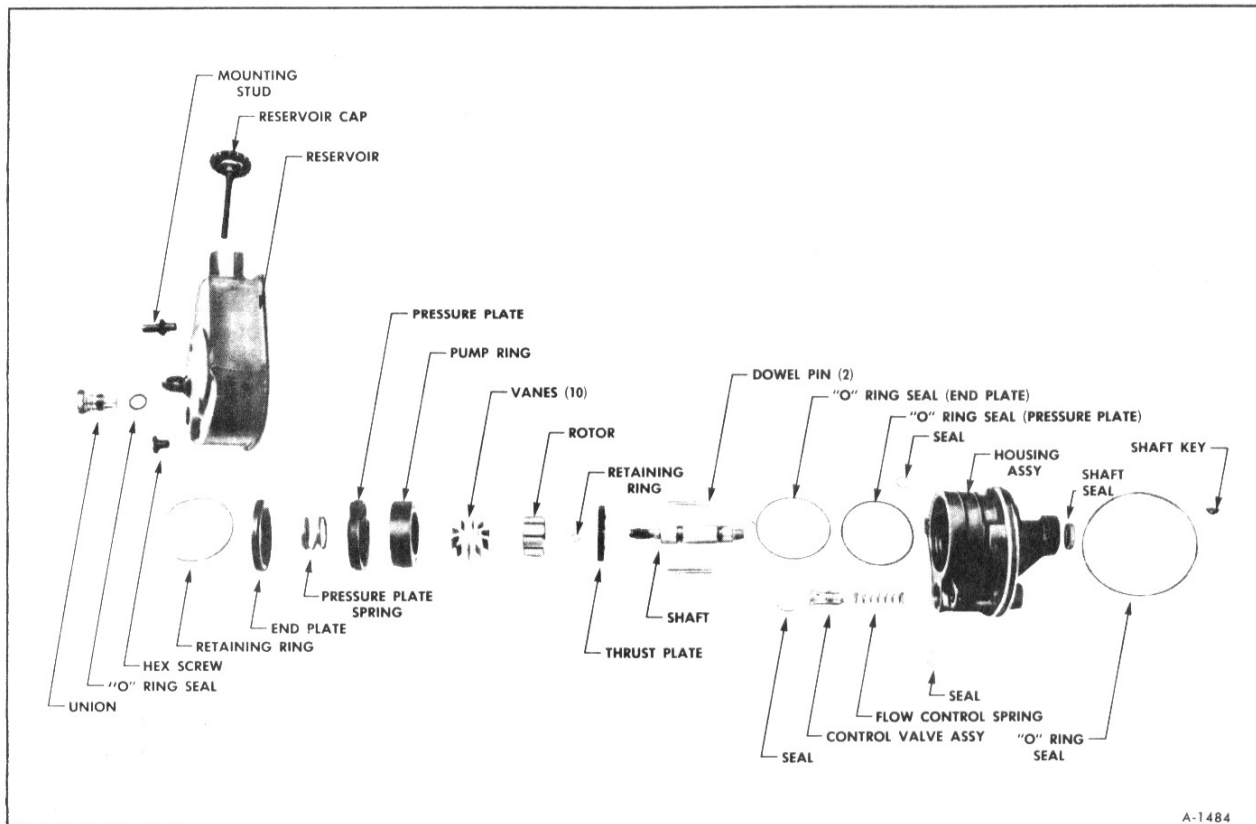
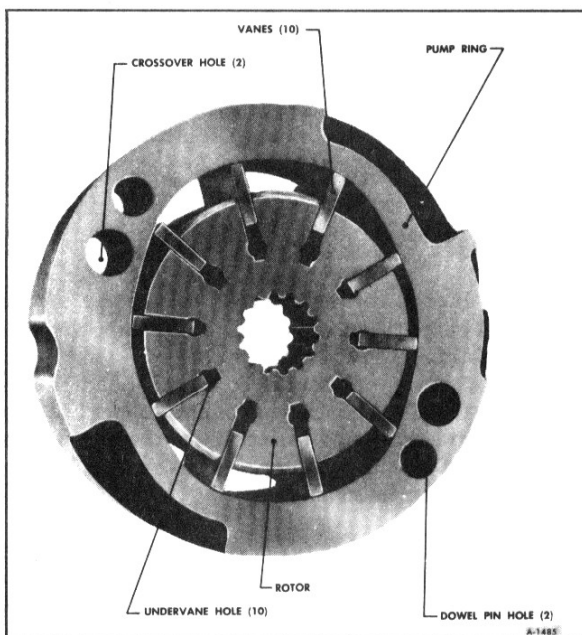
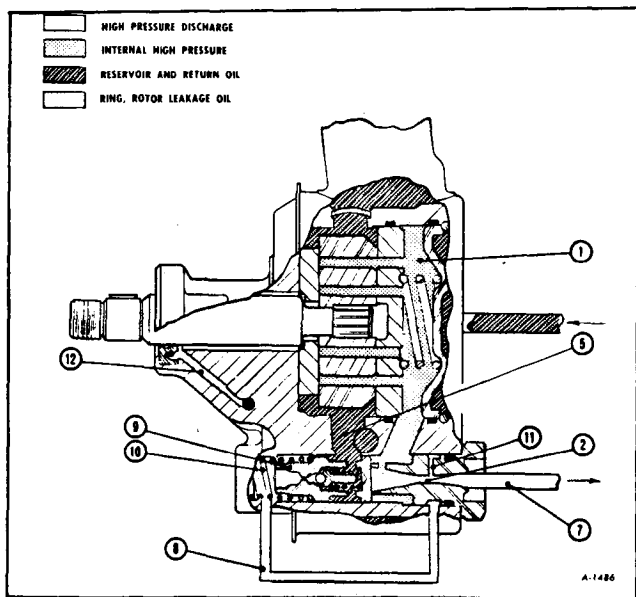

Figure 2—Power Steering Pump (exploded)
Figure 3—Pump Ring and Rotor
Figure 4-Slow Cornering
The thrust plate (figure 2) is located on the inner face of the housing by two dowel pins. This plate has four central blind cavities for undervane oil pressure. The two outer blind cavities direct discharge oil through the two cross-over holes in the pump ring (figure 3), through the pressure plate, and into cavity 1 (figure 4). The two outside indentations in the thrust plate are for intake of the oil from the suction part of the pump.
The pump ring (figure 3) is a plate having the mating surfaces ground flat and parallel. The center hole is a two lobed cam in which the rotor and vanes operate. The ring is placed next to the thrust plate, and located with the same dowel pins.
The pressure plate is fitted against the ring and located with the same two dowel pins. This plate has six through ports. The four central through ports connect from cavity 1 (figure 4) to supply undervane
oil pressure. The two outer ports pass oil under discharge pressure to cavity 1. The two indentations are for oil intake from the suction part of the pump, cavity 7 (figure 4) into the rotor.
The drive shaft is fitted with a pulley and is belt driven from the crankshaft. The rotor is loosely splined to the drive shaft and secured with a retaining ring. It is located centrally within the ring and between the thrust and pressure plates. The ten vanes are mounted in radial slots in the rotor (figure 3).
As the drive shaft turns the rotor, the vane tips follow the inner cam surface of the pump ring, moving outward and inward twice during each revolution. This results in a complete pumping cycle every 180 degrees of rotation (figure 3). Oil is moved in the
spaces between the vanes. As the vane tips move outward, oil is sucked into the intervane spaces through four suction ports in the pressure and thrust plates. The pressure of the oil is raised, and the oil is discharged from the pump ring, as the vane tips move inward. High pressure oil discharges into cavity 1, (figure 4), through two open ports in the pressure plate, and through two blind ports in the thrust plate, which are connected to cavity 1 by the cross-over holes in the ring. A portion of this oil is circulated through the central port system in the pressure plate, forcing the vanes to follow the cam surface of the ring. The ring-rotor leakage oil (12) is used for bushing lubrication and then bled to the reservoir.
Slow Cornering (Figure 4)